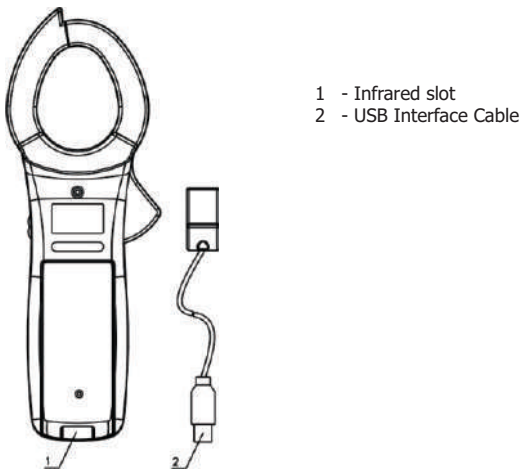

Figure 1
5.1. The Meter Back and Bottom Structure (see figure 1)